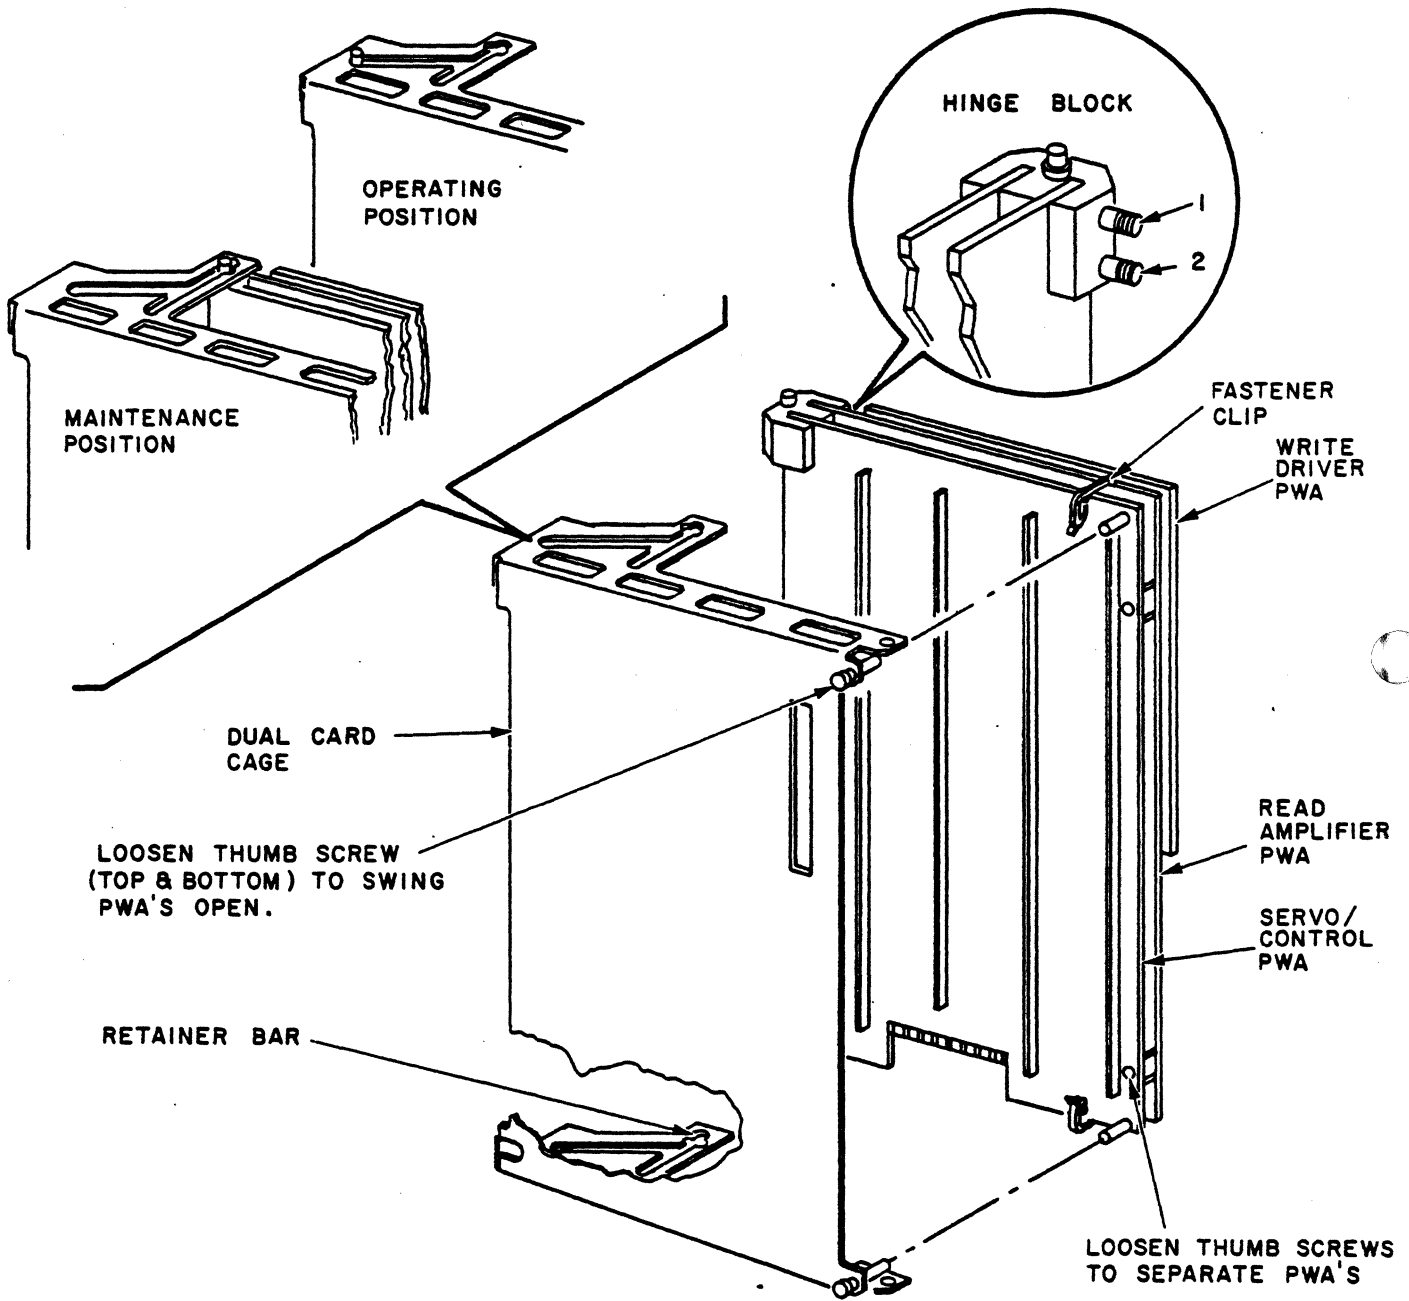

Figure 6-31. Write Driver/Read Amp/Servo-Control PWAs
2. Loosen the top and bottom thumb screws securing the servo/read/write card set to the card cage (figure 6-31).
3. Slide out and reposition card set to maintenance position. Remove yellow fastener clips from top and bottom of card set (figure 6-31).
6. Reinstall yellow fastener clips on top and bottom of card set (figure 6-31).
5. Return read/write/servo card set to operating position. While holding it in place, tighten top and bottom thumb screws to secure card set to card cage (figure 6-31).
3. Slide card set out to maintenance position. Remove yellow fastener clips from top and bottom of card set (figure 6-31).
5. Loosen the two thumb screws (figure 6-31) and separate the servo-control PWA from the read amplifier PWA. Avoid undue stress on the PWA by loosening the thumb screws alternately and separating the PWA as the screws are loosened.
6. Loosen and back out only the top screws (see figure 6-31) of each hinge. Loosen the bottom screws one-half turn (do not remove). Hold the PWA in place while loosening the screws.
5. Reinstall yellow fastener clips on top and bottom of card set (figure 6-31).